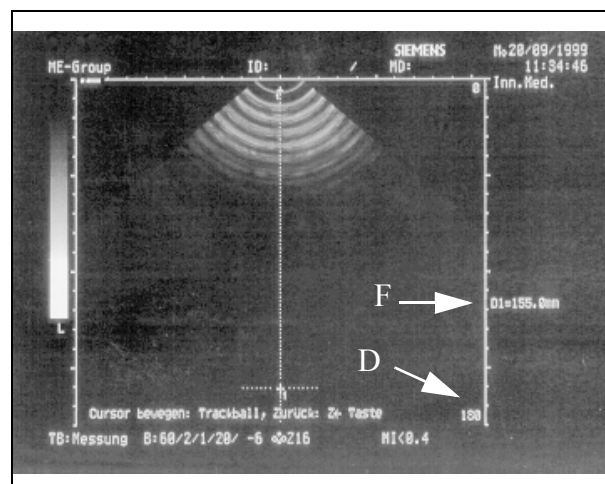

Fig. 11
- Use the track ball to move to the center of the crosshairs. In the display (F/Fig. 11), a value of - see Table - must appear that is relative to the probe. If this is not the case, the adjustment procedure must be repeated for the potentiometer in the ultrasound arm or the ultrasound arm must be replaced.